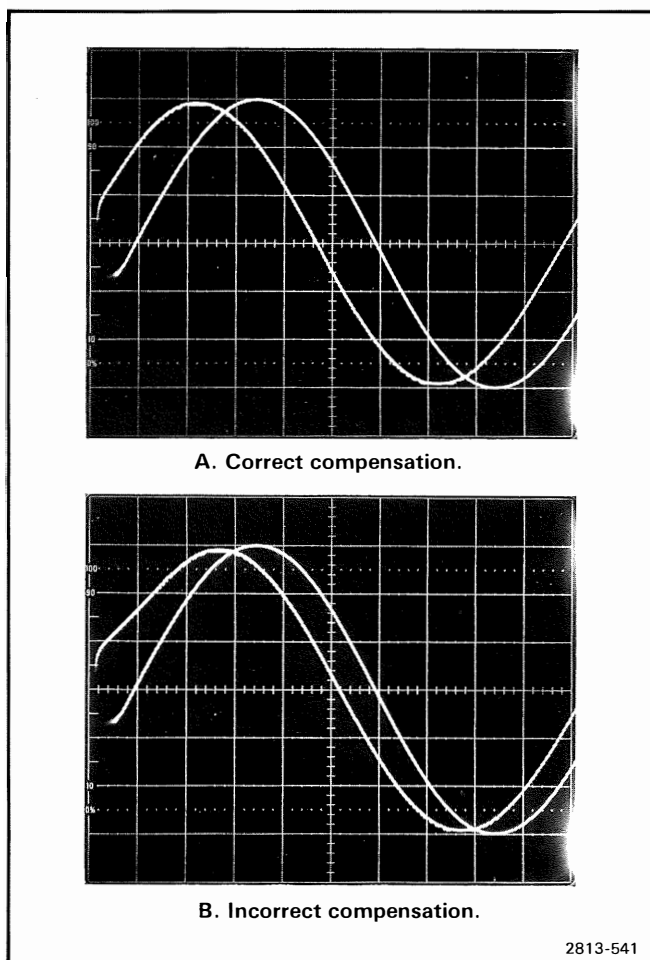

Figure 5-3. Displays of correct and incorrect High Rate Compensation.
b. **CHECK**—that the positive-going slope of the first half-cycle of the displayed waveform is the same as the slope of the real-time waveform. Figure 5-3 shows correct and incorrect displays.